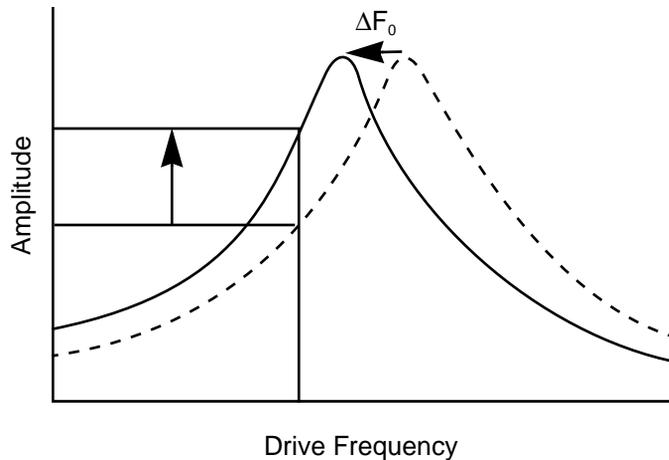

Figure 230-19 Shift In Amplitude at Fixed Drive Frequency (Extender Electronics Module *not* installed.)
Amplitude Detection, unlike **Phase Detection**, is available *with* or *without* the optional Extender Electronics Module. This section describes the differences in software set up and imaging for EFM systems *without* the Extender module. When EFM imaging *without* the Extender module, changes in the cantilever amplitude provide an *indirect* measure of shifts in the cantilever resonance frequency as shown in Figure 230-19.
- For maximum sensitivity, set the **Drive frequency** to the steepest part of the resonance curve. As the tip oscillates above the sample, a gradient in the magnetic force will shift the resonance frequency F_0 ; (see Figure 230-19). Tracking the variations in oscillation amplitude while in **LiftMode** yields an image of the electric force gradients. Either side of the resonance may be used, though we have obtained slightly better results on the low side, as shown in Figure 230-19.